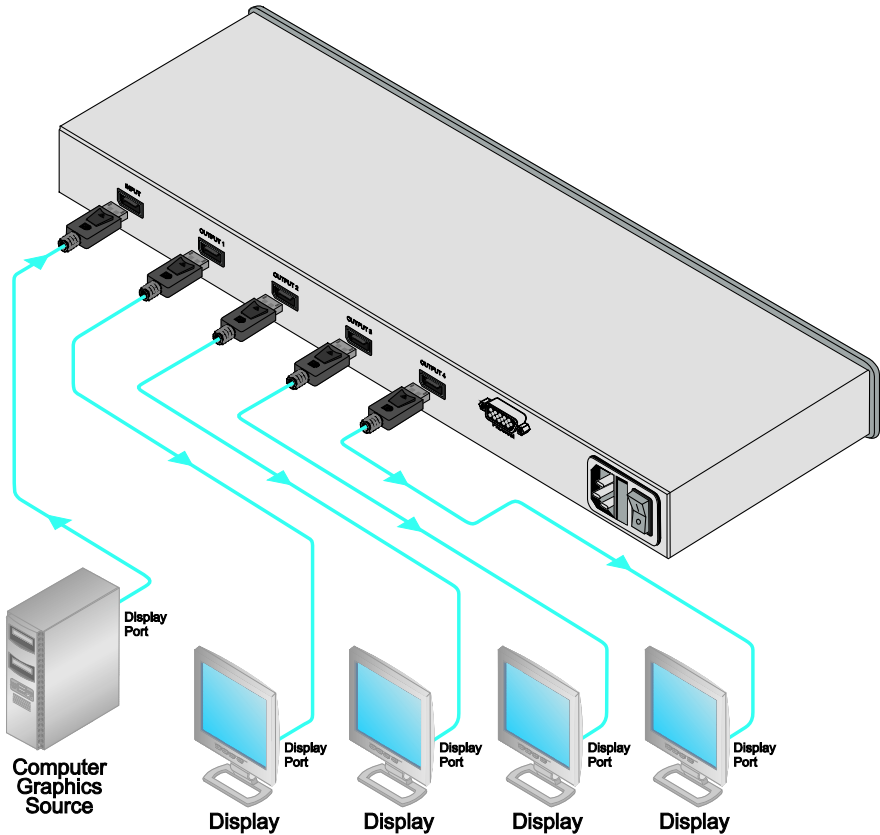

Figure 2: Connecting a VM-4DP 1:4 DisplayPort Distributor
To connect the **VM-4DP**, as illustrated in Figure 2, do the following:
3. Connect the power cord to the mains electricity (not shown in Figure 2).